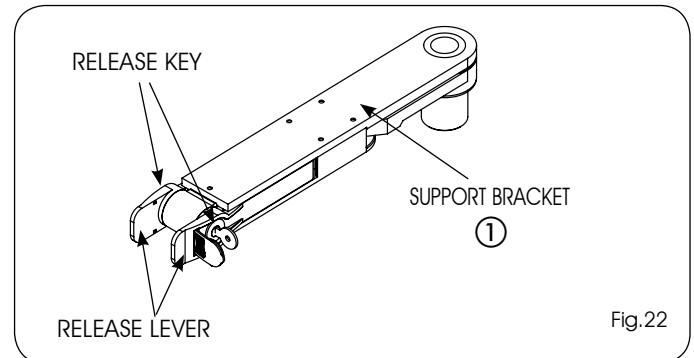

Fig.22
For the S700H operator, a manual mechanical emergency release is available as an optional item. If the gate has to be moved manually due to a power cut or fault of the automated system, use the release key device. The device is inserted on the gate support bracket (fig. 22 ref. ①) and enables you to release the system from both inside and outside the premises.
- 1) Move the release lever back to its rest position (Fig.22)